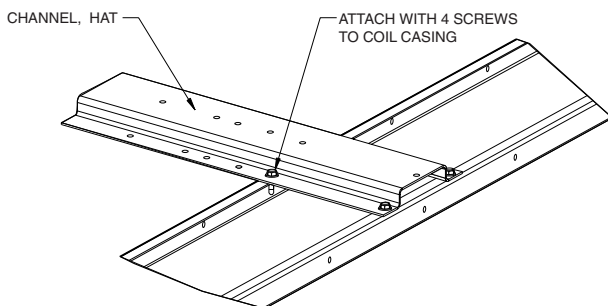

Fig. 87 — Secure Spacer
11. Remove the spacer (hat channel) secured to the top center of the lower coil casing (see Fig. 87) and set aside.